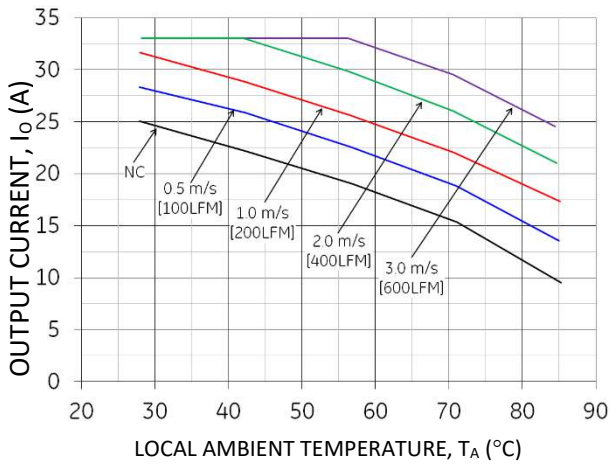

Figure 19. Output Current Derating for the Open Frame QBDW033A0B at 48V in with Transverse airflow from Vin(-) to Vin(+)
Increased airflow over the module enhances the heat transfer via convection. The thermal derating of figure 19- 23 shows the maximum output current that can be delivered by each module in the indicated orientation without exceeding the maximum THx temperature versus local ambient temperature (TA) for several air flow conditions.
The use of Figure 19 is shown in the following example:
Determine required airflow velocity (Use Figure 19):